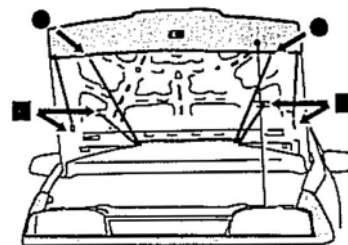

figure 2
- 1.5 If you have a "T" style hood section, wrap the trailing portion of the hood piece over the rear edge of the hood. If there are only two straps, secure the s-hooks to the webbing loops on the underside of the hood piece as shown at ● in figure 2. If there are more than two straps, stretch the straps in the direction in which they are sewn and attach the s-hook to the opening in the underside of the hood as shown at ■ in figure 2.